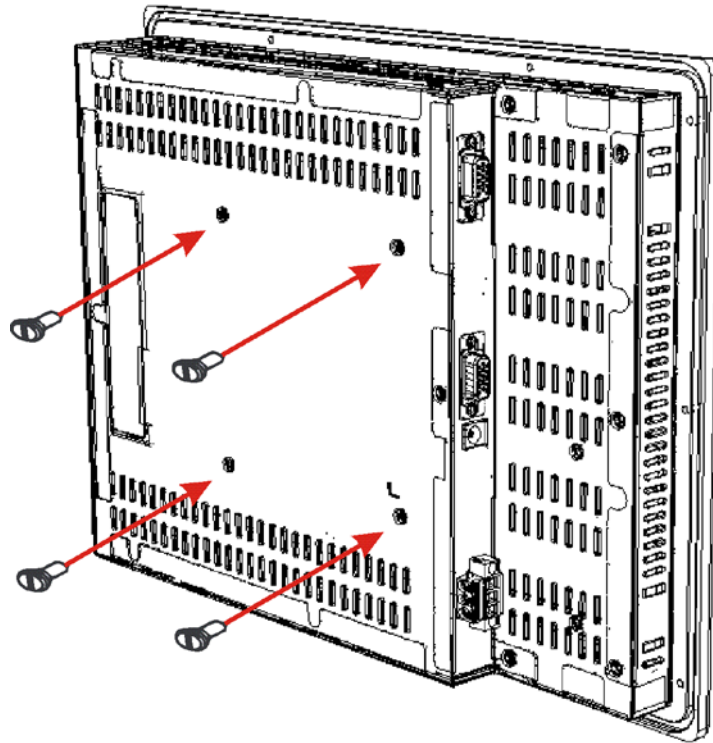

Figure 5-19: Monitor Support Screws
- Step 6:** Insert the four monitor mounting screws (M4 screws) provided in the wall mounting kit into the four screw holes on the rear panel of the monitor and tighten until the screw shank is secured against the rear panel (**Figure 5-19**).